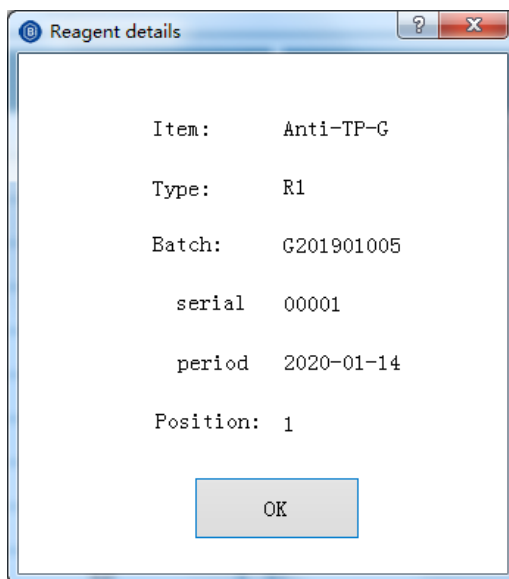

Figure. 8.4.5 Reagent details
- Select the reagent to inquire and click **Detailed info** in the **Reagent management** interface as shown in Figure 8.4.1, the reagent details will pop up. R1 of Anti-TP-G is used as an example, the reagent details are shown in Figure 8.4.5.